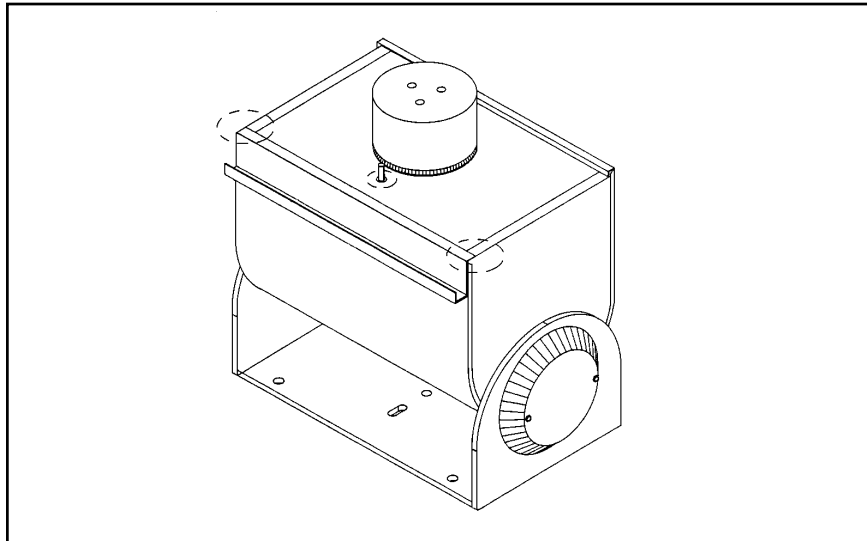

Figure 1. Sealant Locations
2. If you mounted the pan/tilt outdoors in the inverted position (base up), apply RTV silicone to the areas circled in Figure 1.
4. Reinstall the cover. If the pan/tilt is installed outdoors in an inverted position, apply RTV silicone sealant as shown in Figure 1.
Reinstall the cover. If your pan/tilt is installed in an inverted position, apply RTV silicone sealant to the areas circled in Figure 1.